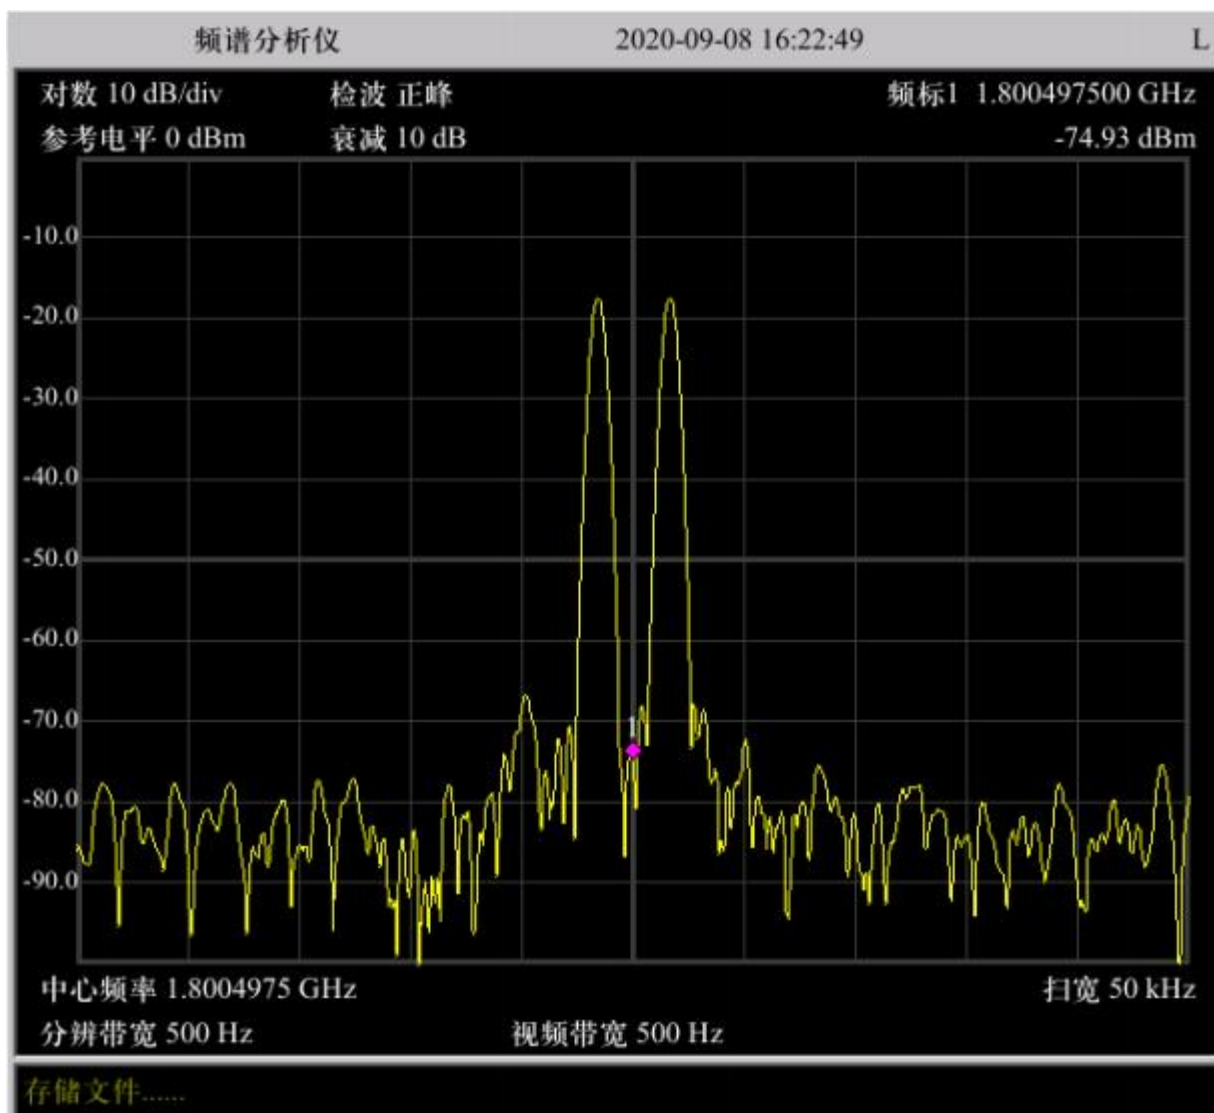

Figure 4-3 100Hz resolution bandwidth
- ◆ Press [Resolution Bandwidth Auto Manual], set the resolution bandwidth to manual, and enter 500Hz. You can see two signals appear on the screen, as shown in Figure 4-3; continue to reduce the resolution bandwidth to see the two signals more clearly.